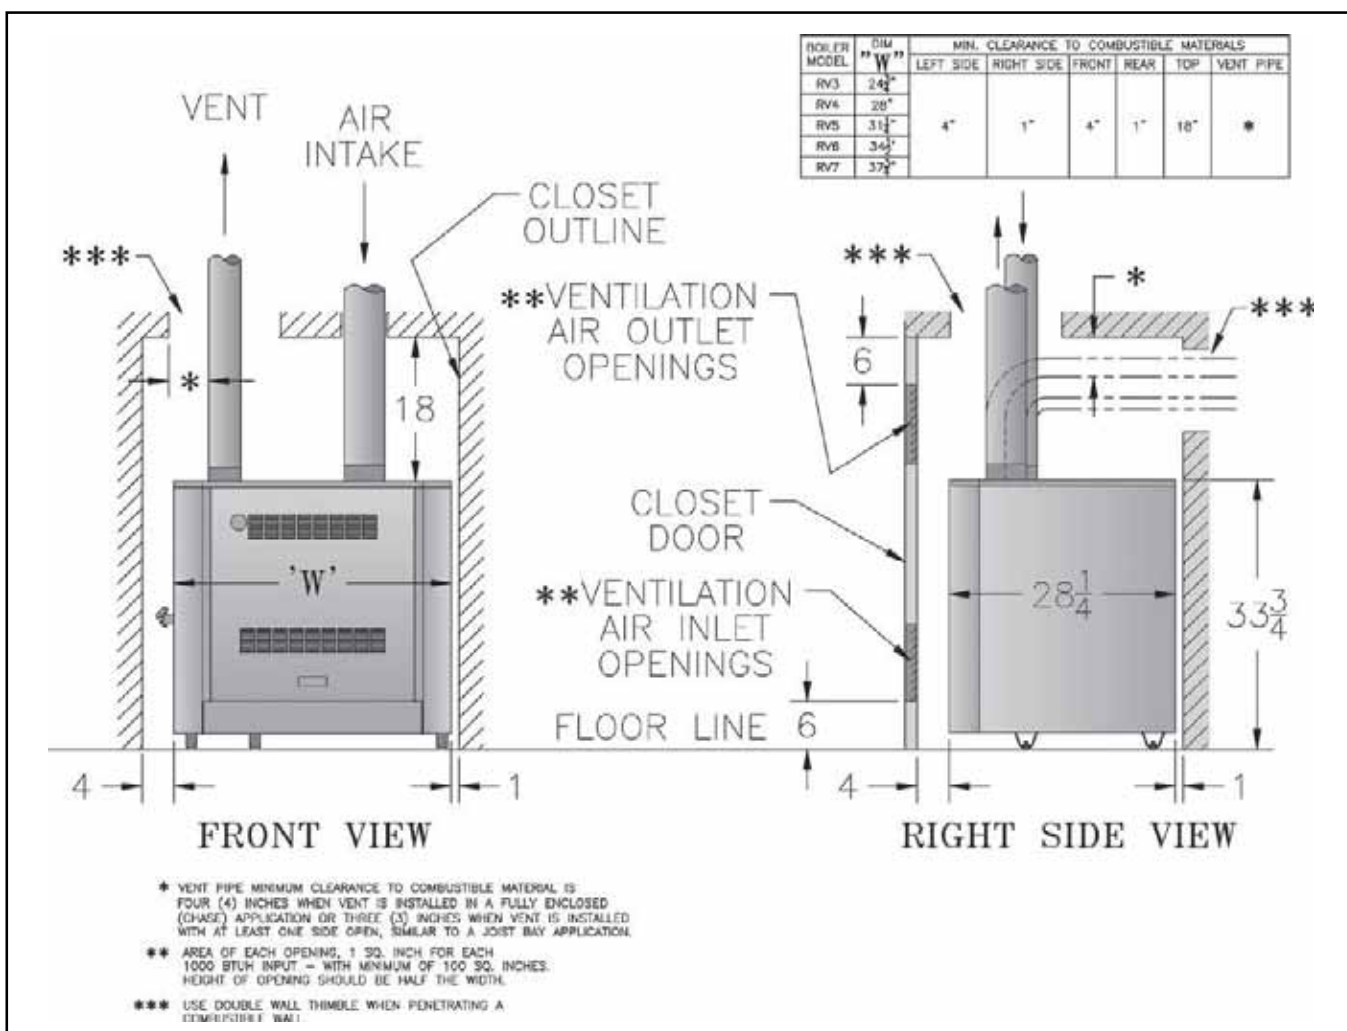

Figure 1: Minimum Clearances to Combustibles
- C. Provide clearance between boiler jacket and combustible material in accordance with local fire ordinance. Refer to Figure 1 for minimum listed clearance from combustible material. Recommended service clearance is 24 inches from left side, right side and front. Service clearances may be reduced to minimum clearances to combustible materials.